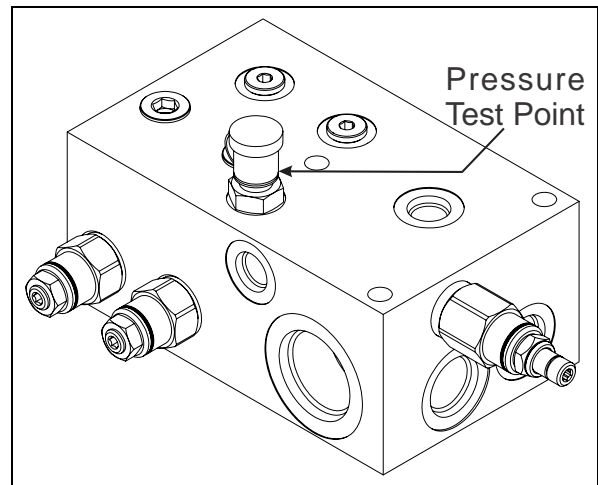

Figure 2-5: Steer Pressure Test
5. For ease in checking pressure Landoll Service offers a Pressure Check Kit (p/n: 0018152) which includes a 5,000 psi (344.7 bar) pressure gauge, hose and quick-coupler. Have shop rags and a small container available to collect any oil spills. See Figure 2-5 on page 2-17.